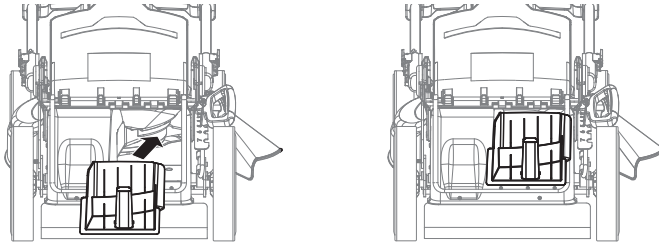

Fig. 5
3. Close the mulch door. The lawn mower is now ready for mulching (Fig. 5).